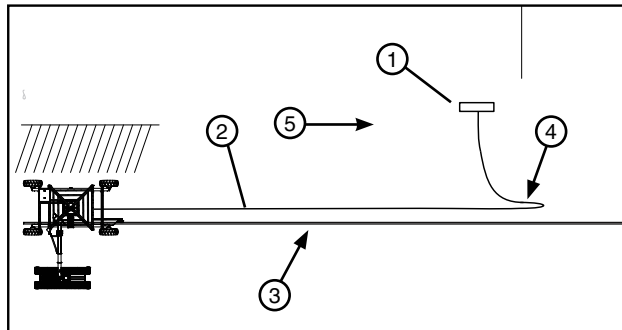

Figure 70-1 1. Power Pedestal
- (b) Position the electric cord between the cart wheel tracks. To prevent interference between the electric cord and cart tires, bury the electric cord in the area where interference will occur or when applicable. See Figure 70-1.
- (c) Position the electric cord far enough away from the hose, so that the hose will not drag over it. To prevent interference between the electric cord, cart tires and hose, bury the electric cord in the area where interference will occur or when applicable, position the electric cord over the top of hose. See Figure 70-1.